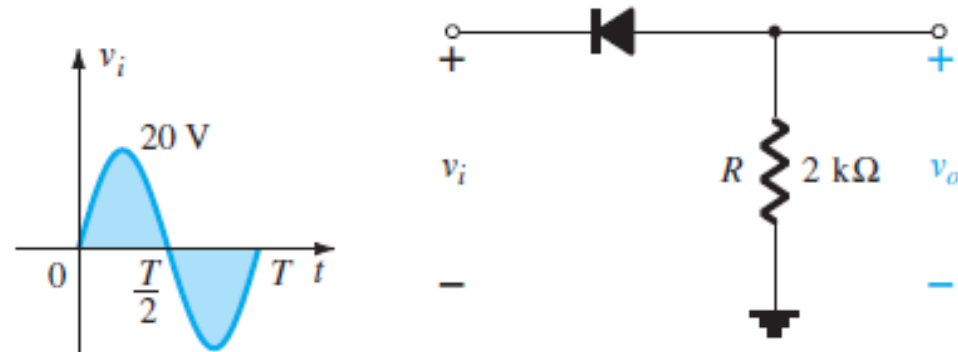

FIG. 2.49
- Sketch the output v_o and determine the dc level of the output for the network of Fig. 2.49.